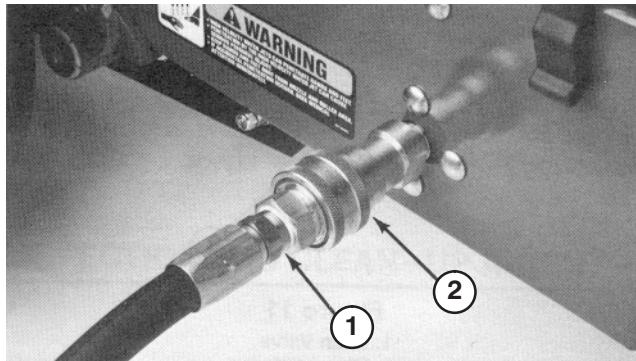

Figure 9
3. Connect the hose adapter (Fig. 9) to the garden hose, then connect the adapter to the quick coupler on the side of the machine.